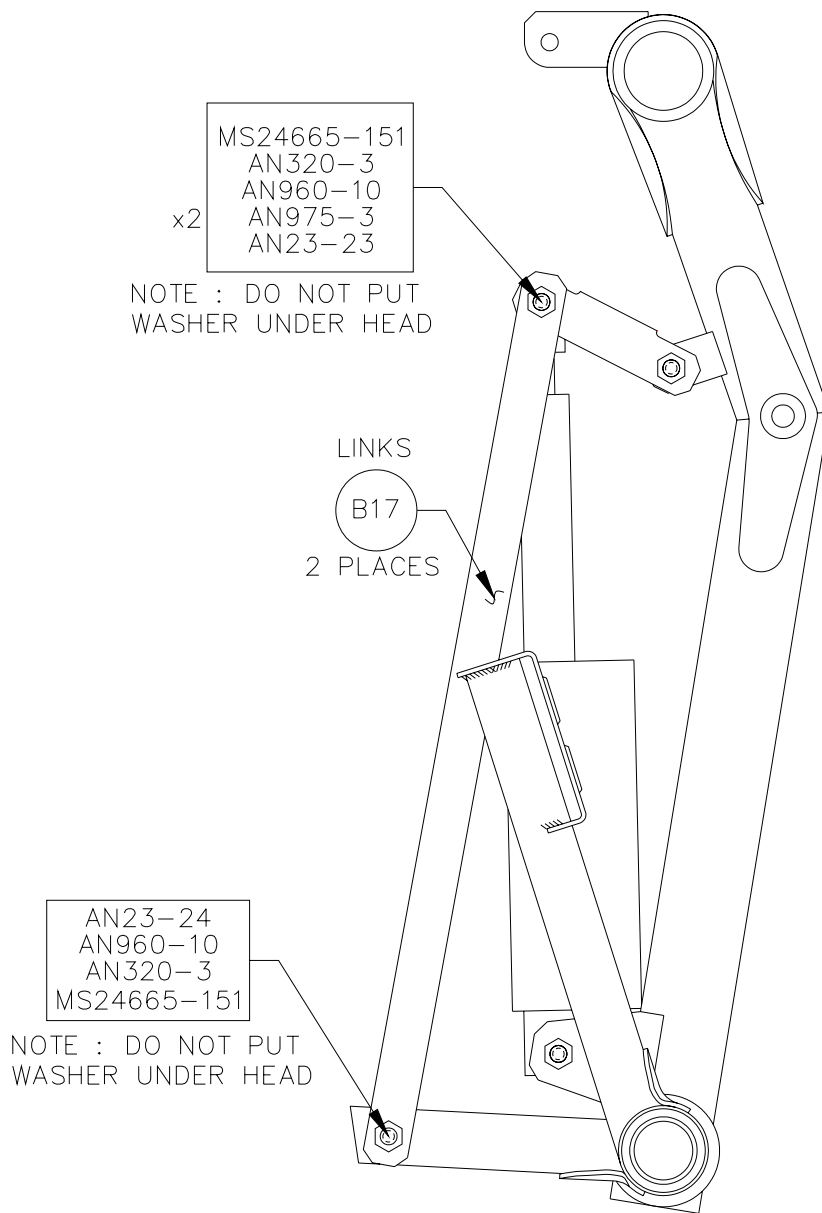

Figure 4
8. Remove the B17 links and install, using existing hardware, new links provided with kit. See Figure 4.